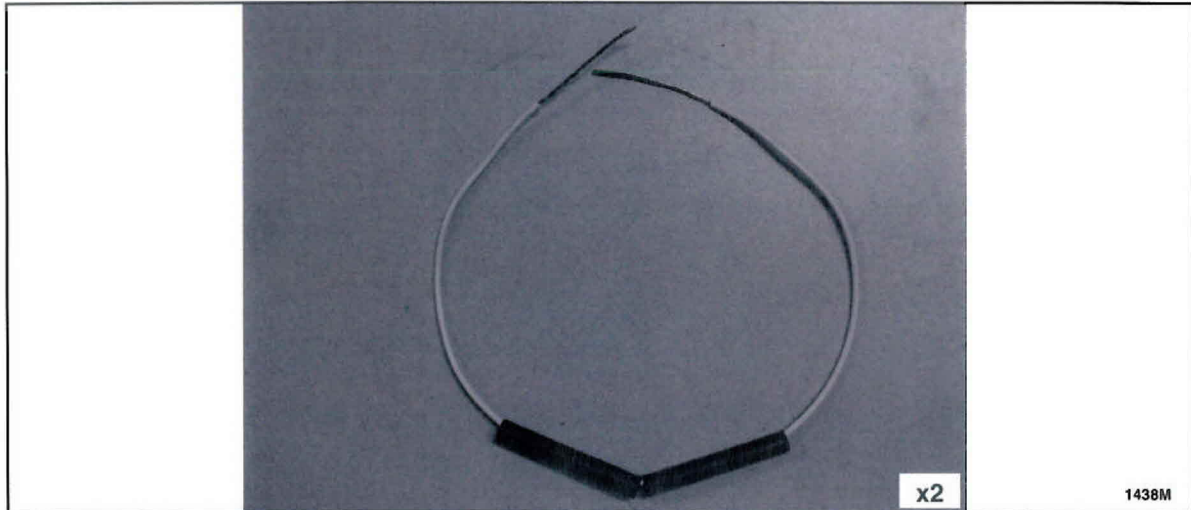

FIGURE 8
12. Prepare two lengths of wire for splicing as follows. See Figure 8.
- c. Position two (2) lengths of ES-1 double wall heat shrink tubing onto each wire.